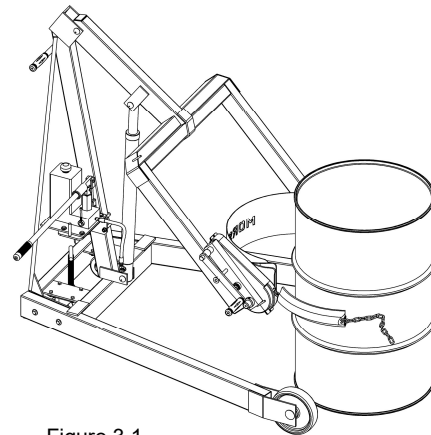

Figure 3.1
2. Using the "LIFT" control as described in "Machine Description - Controls", position the drum holder assembly with the back band at the middle of the drum. (Figure 3.1). With the ratchet plate swung open and the cinch chain hanging from the chain hook, push the unit until the back band rests firmly against the drum. Some adjustment to the tilt angle of the saddle may be necessary to ensure band fits flush on the drum.